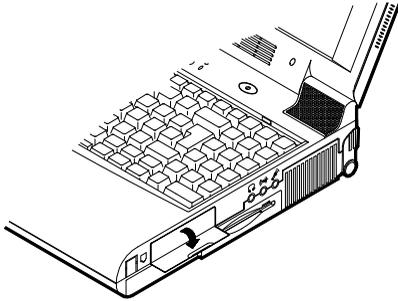

Figure 2-16
- 1** Open the access door (Figure 2-16).